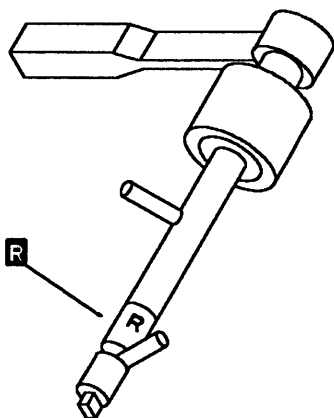

Figure 5-95. Actuation Tool, TCM Removal
- Before using the TCM actuation tool, be certain that the detent pin in the tool is in the **Removal position R** as shown Figure 5-95.